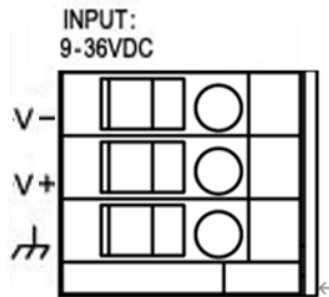

Figure 2.4: Power Terminal Block
- Step 1 Insert the positive and negative wires into the +V and -V contacts on the terminal block connector as shown below in Figure 2.4.